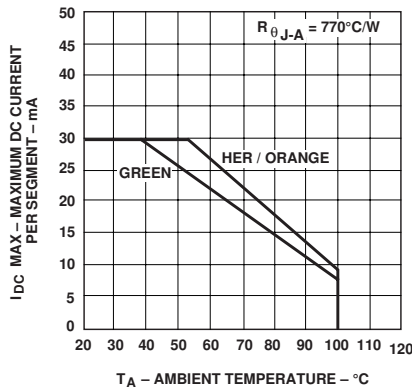

Figure 7. Maximum allowable dc current vs. ambient temperature.
2. Derate above 53°C at 0.45 mA/ °C (see Figure 7).
4. Derate above 39°C at 0.37 mA/ °C (see Figure 7).